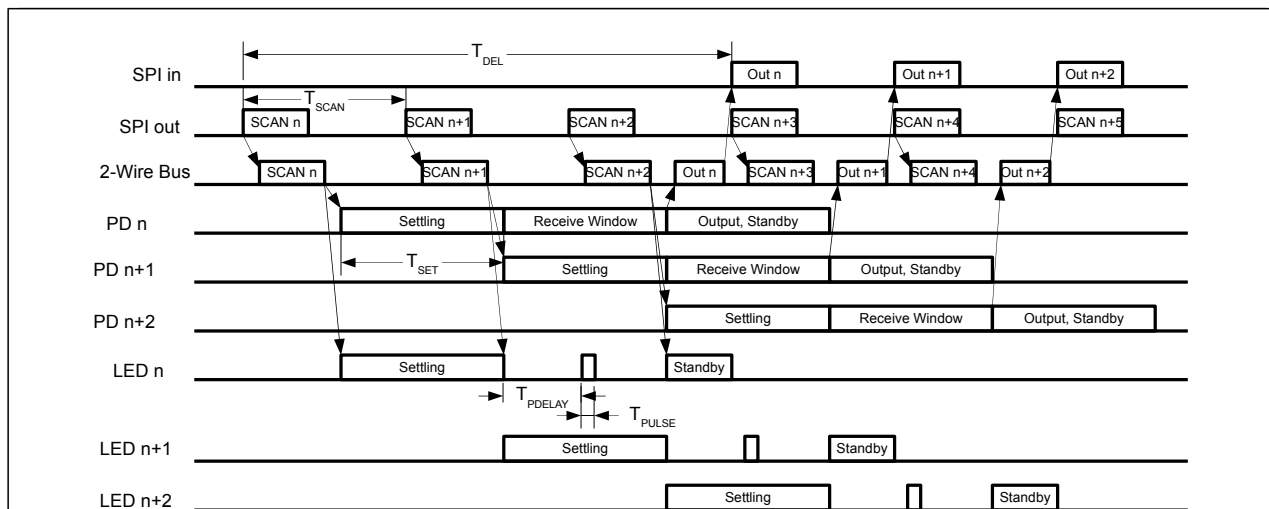

Figure 15: Timing of the scan process
**PD PIN operation:** A first SCAN command switches the selected epc120 element from standby into operation mode. The process from standby to operation requires a certain time which is called settling time (see Figure 15). The settling time minimum is 60µs. The second SCAN command opens the the reception window, there also the pulse at the LED PIN is sent, where a third SCAN command closes the reception window and puts the epc120 element back to standby. The fourth SCAN command fetches the received results.
**LED PIN operation:** A first SCAN command switches the selected epc120 element from standby into operation mode. The process from standby to operation requires a certain time which is called settling time (see Figure 15). The second SCAN command starts the light pulse window. After the time PDELAY, one light pulse of the length TPULSE is generated. A third SCAN command puts the element back to standby. If the TSTMP and the period of the SCAN commands of the microprocessor are equal the pulse will be emitted exactly in the middle of the reception window.
The whole operation is optimized for shortest possible scan periods. Figure 15 shows the timing for a settling time of one scan period (TSET=0) and the addresses given in the shortest possible sequence.